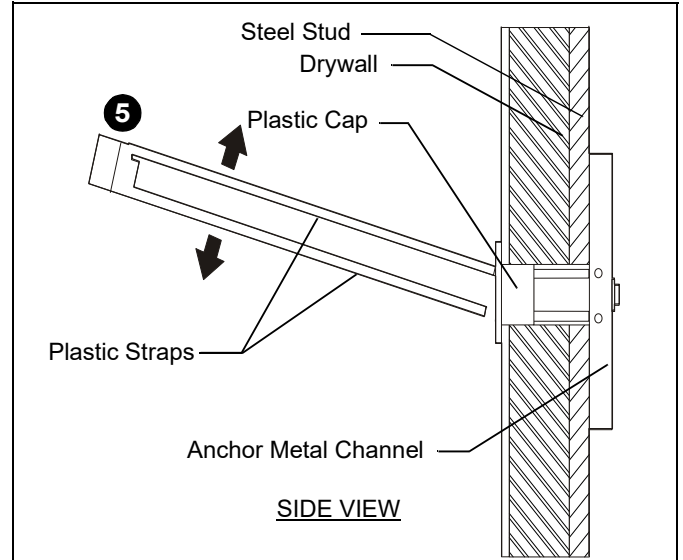

Figure 7
5. Snap off plastic straps on anchor at wall by pushing side to side, snapping of straps level with flange of plastic cap. (See Figure 7)